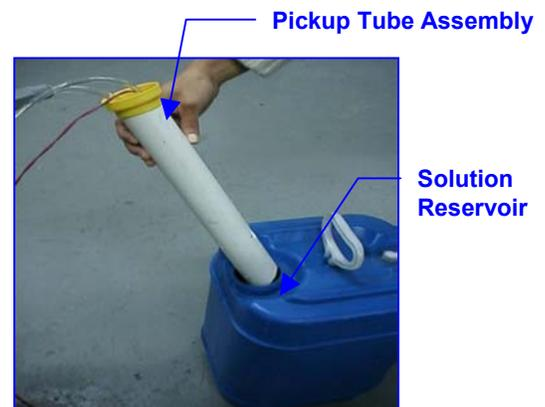

Figure 15: Pickup Tube & Solution Reservoir
**Step 1.** Pull the pickup tube assembly (see figure 15, page 18) from the current solution reservoir.
***Step 2.*** Purge system with *warm* water by placing the pickup tube (see figure 15 on page 18) into a bucket of water, then follow the purging instructions as described on page 18 until all solution lines are cleaned and filled with water.